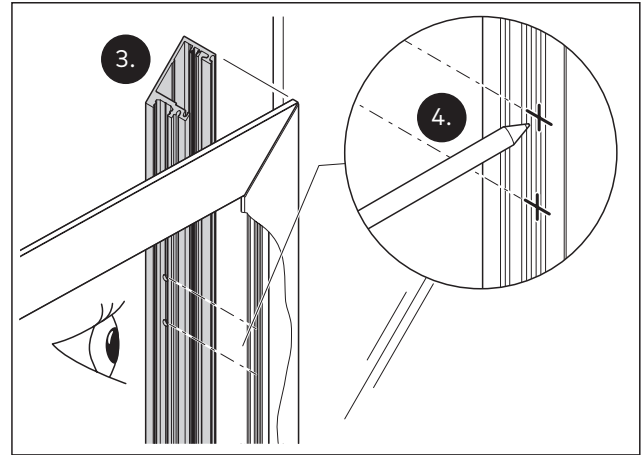

Fig. 30 Determine the position of the frame clamping piece from the viewpoint of the opposite side to the hinge
- Keep the cover profiles for the door frame on the hinge side on the base profile for the door frame (Fig. 30).